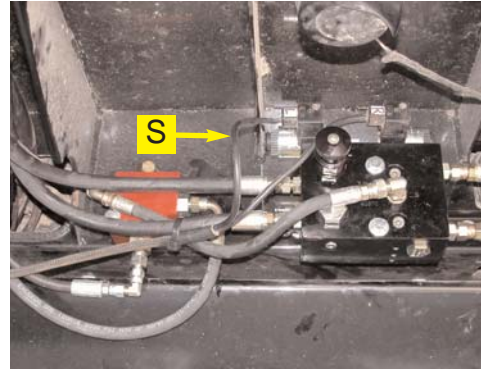

Figure 8a. Valve cable installed at block.
- a. Route the valve control cable (S) from the Automated Steering Block, under the cab and through the side access door. (Figure 8a. and 8b.)